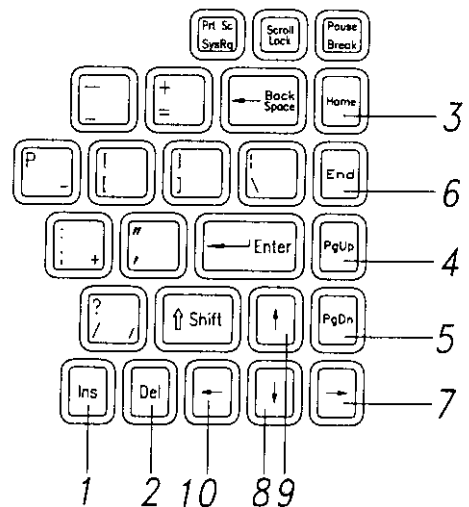

Figure 1-3 Cursor Control Keys
(Figure 1-3) Ten keys around the keyboard right edge work with many programs to enhance editing and cursor placement. See the software manuals for their proper operation. The cursor control keys are:
- Insert (Item 1, Figure 1-3)
- Delete (Item 2, Figure 1-3)
- Home (Item 3, Figure 1-3)
- PgUp (Item 4, Figure 1-3)
- PgDn (Item 5, Figure 1-3)
- End (Item 6, Figure 1-3)
- → (Item 7, Figure 1-3)
- ↓ (Item 8, Figure 1-3)
- ↑ (Item 9, Figure 1-3)
- ← (Item 10, Figure 1-3)